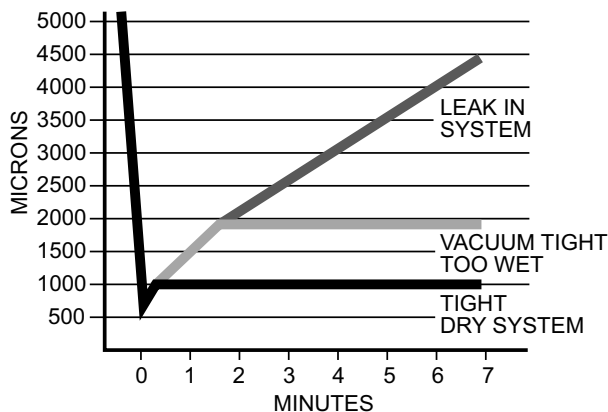

Fig. 3 – Deep Vacuum Graph
10. Perform a leak check on the unit. Vacuum unit to 500 microns. When isolating the unit from the pump, the pressure shall not rise above 1000 microns in 7 minutes (Fig. 3).